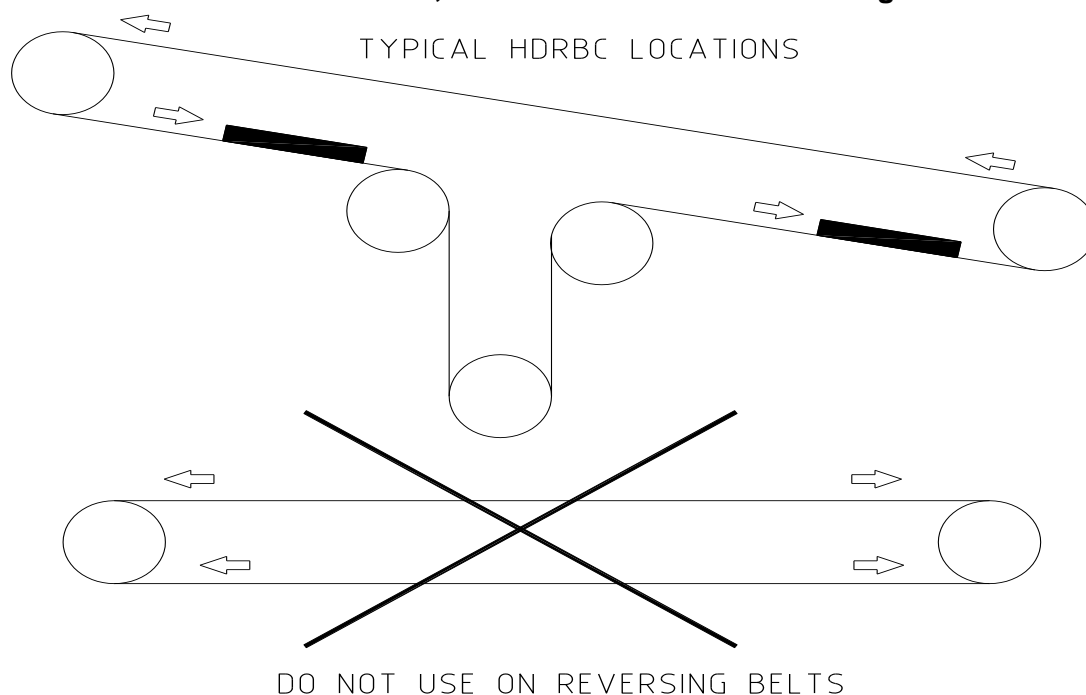

Figure 1: Typical installation positions and use of HD-RBC.
- Step2.** Measure 124mm forward from the nose of the HDRBC, and 324mm perpendicular upwards from the belt surface (see fig 1). Mark this point on the stringer or conveyor structure on each side of the belt, ensuring that the line between the points is at 90° (square) to the belt. These points represent the centre lines of the front support pipe and front mount sets.